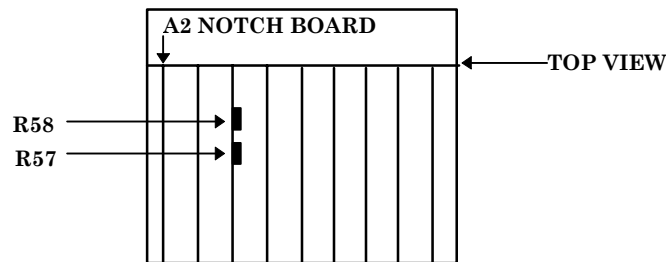

Figure 4. Distortion measurement - adjustment locations.
(1) Connect TI **OUTPUT HIGH** to **INPUT HIGH** and **OUTPUT LOW** to **INPUT LOW**.
(2) Press keys and enter values using **DATA ENTRY** keys as listed in (a) through (d) below:
(3) Adjust A2R57 and A2R58 (fig. 4) for minimum distortion indication on TI.